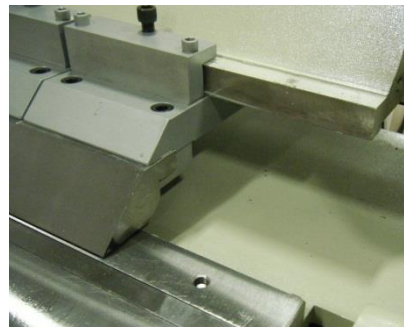

figure 19
When doing box and pan braking it will be necessary to remove and relocate finger assemblies. This is done by loosening the center socket capscrew as shown in (fig. 19), gripping the finger assembly firmly, and either removing or repositioning it. There are (3) 3" (76.2mm), (2) 4", (101.6mm), (5) 5" (127mm), and (1) 6" (152.4mm) fingers to accommodate your bending needs.